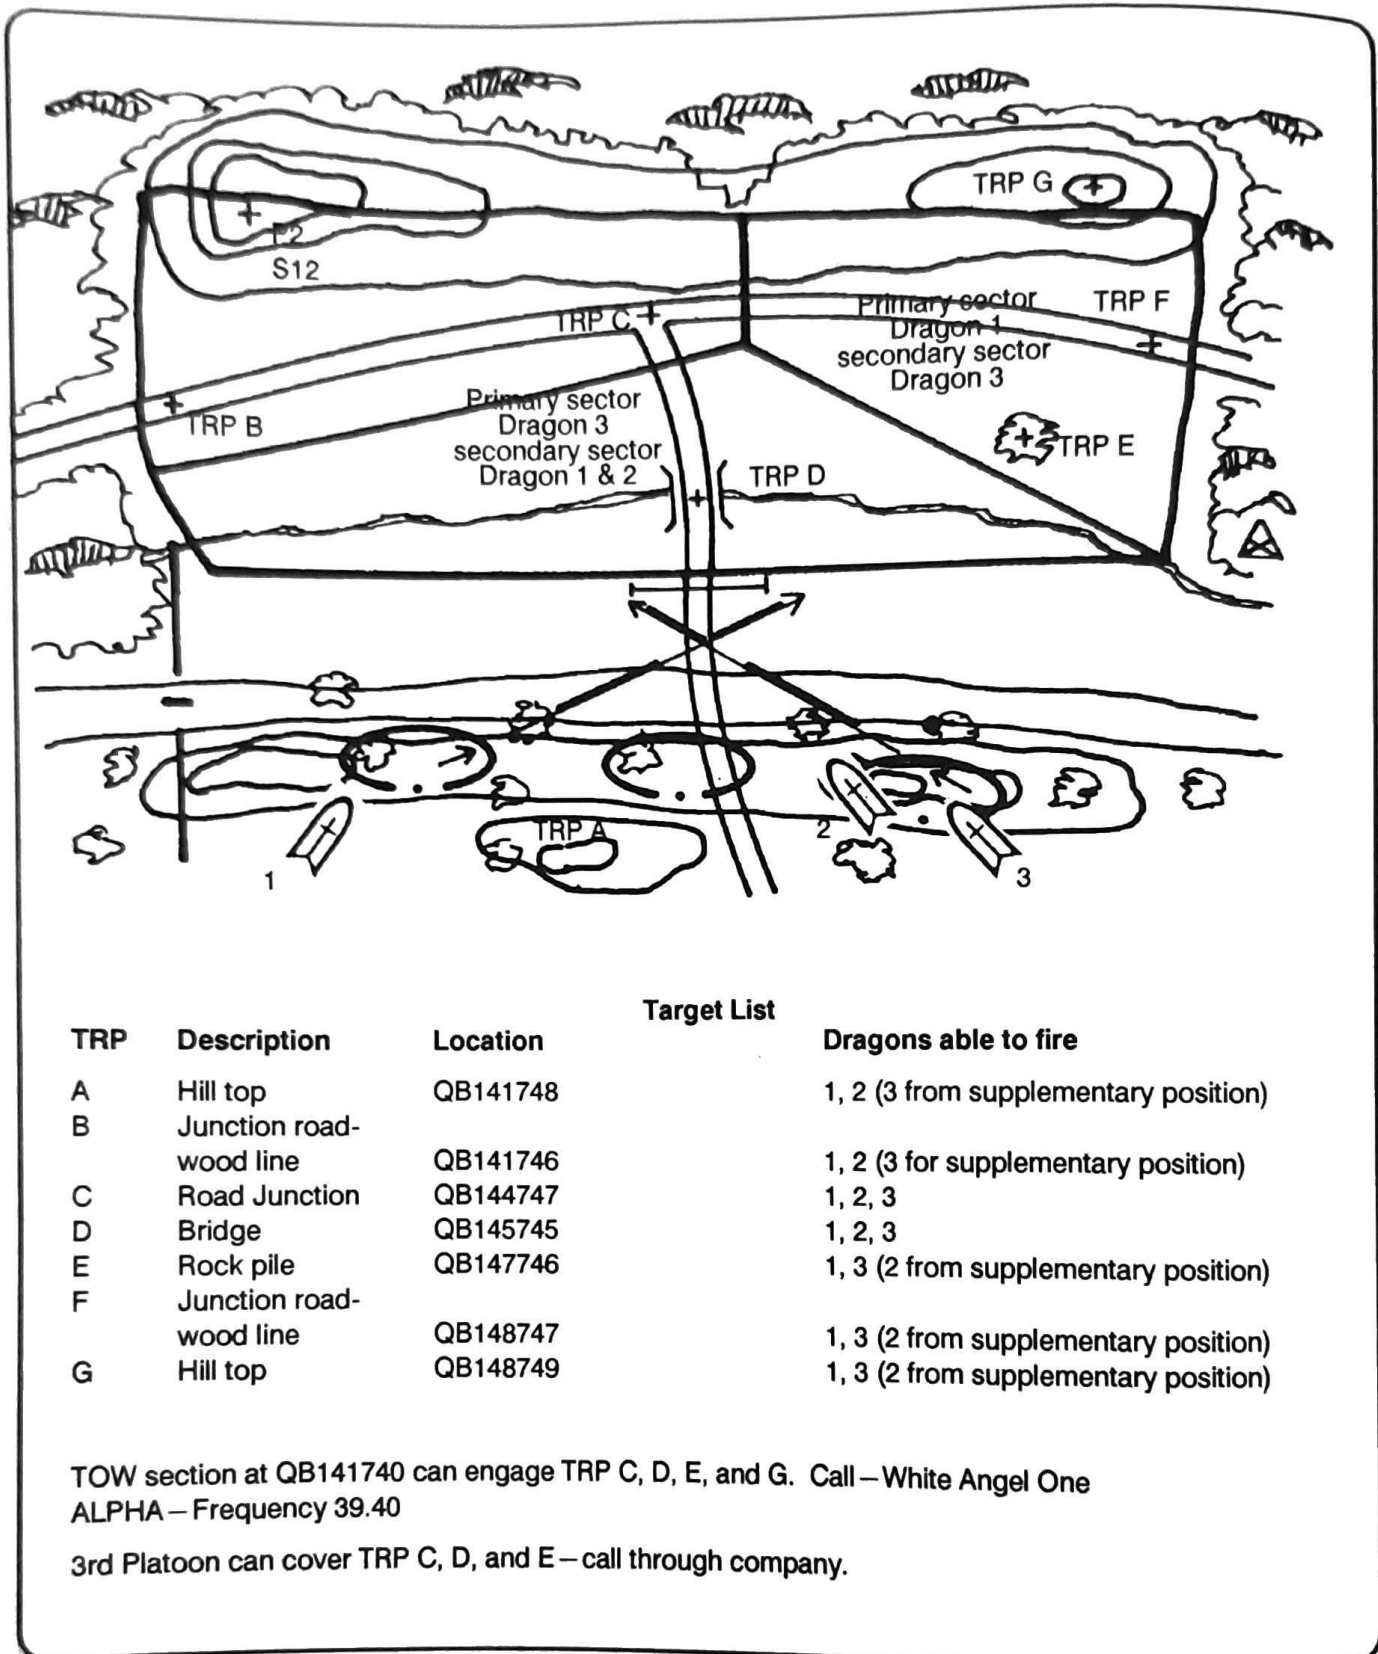

Figure 3-26. Example two-platoon fire plan.
b. The FPL or PDF location of major obstacles, mortar or artillery FPFs, sectors of fire for Dragons, and all TRPs that the platoon can cover are also shown on the overlay. Figure 3-26 is an example of a two-platoon fire plan.